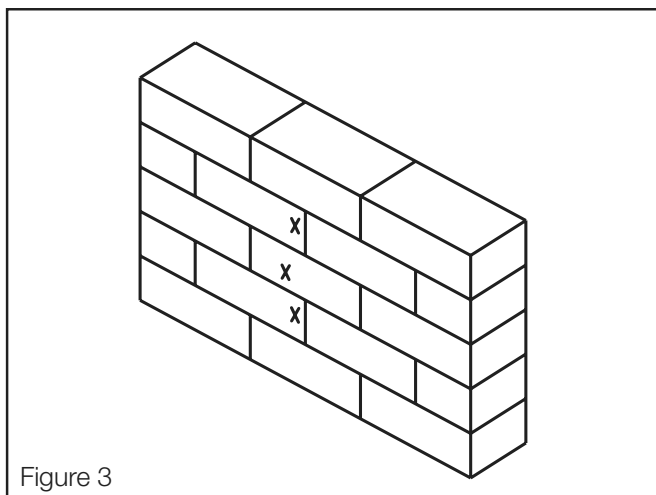

Figure 3
1. Mark 3 fixing holes using the Wall Plate as a guide (see Figure 3). Ensure Wall Plate is straight and level using a spirit level.
3. Fully insert the concrete anchors (B). Tap in with hammer if required.
4. Attach the Wall Plate using drywall screws (A) provided. Do not over tighten.